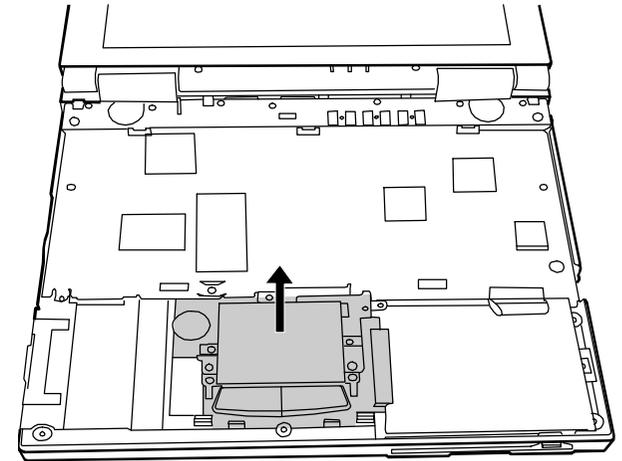

Figure 5-32. Removing the Touch pad board.
3. Lift the touchpad board free. (Refer to Figure 5-32)